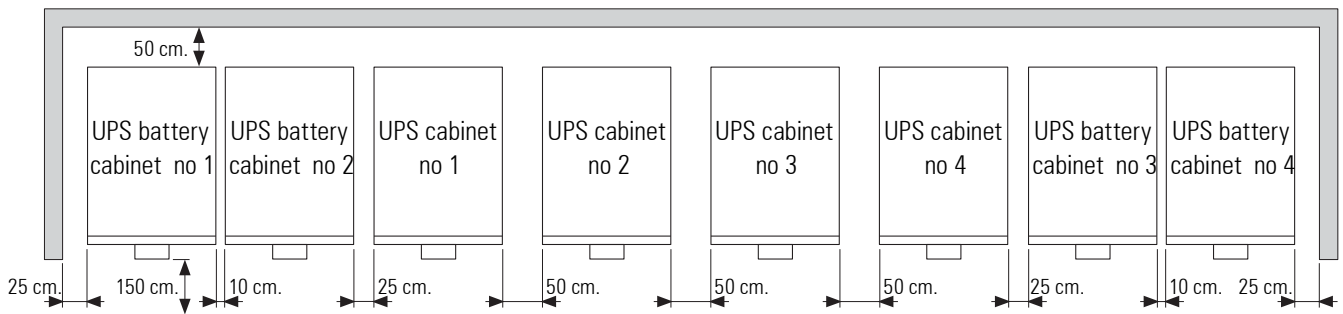

**Fig. 29.** Floor view with minimum distances for a UPS.
- As i.e. Fig. 29 shows two typical cases depending on the model. The one that is based on a single cabinet, UPS with batteries fitted in, and the one of the UPS with batteries in a separate cabinet or extended back up time.